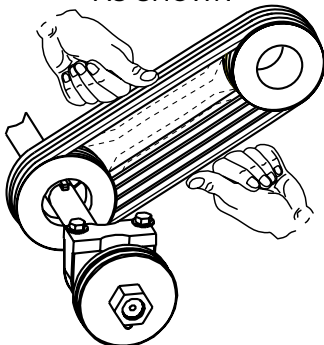

Figure 53. V-Belt Tension Check
2. Check the V-belt tension (Figure 53). If the V-belt tension is correct, reinstall belt guard. If V-belt needs adjustment or replacement, continue to the next steps.
5. Pivot the engine base to adjust the belt to the correct tension (Figure 53).